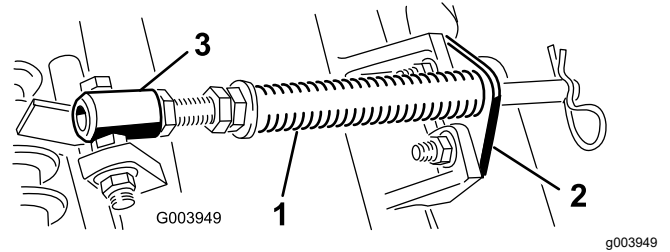

Figure 4
- A. Remove the 2 carriage bolts and nuts securing the rod bracket to the cutting unit tabs (Figure 4).
- B. Remove the flange nut securing the spring tube bolt to the carrier frame tab (Figure 4), and remove the assembly.
**Note:** Position the bolt head to the outer side of the tab as shown in Figure 4.